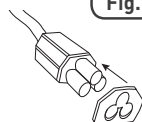

Fig.1
- ⚠ ALS DE KACHEL IN EEN RUIMTE WORDT GEBRUIKT WAAR HIJ IN CONTACT MET WATER KOMT, EN OM ERVOOR TE ZORGEN DAT DE IP44 CLASSIFICATIE BEHOUDEN BLIJFT, DIENT ER ALTIJD VOOR GEZORGD TE WORDEN DAT HET ELEKTRICITEITSSNOER IS VOORZIEN VAN DE ZWARTE FOAMPAKKING AAN DE CONTACTZIJDE VOORDAT DE SLIMLINE KACHEL OP HET ELEKTRICITEITSNET WORDT AANGESLOTEN [FIG. 1]